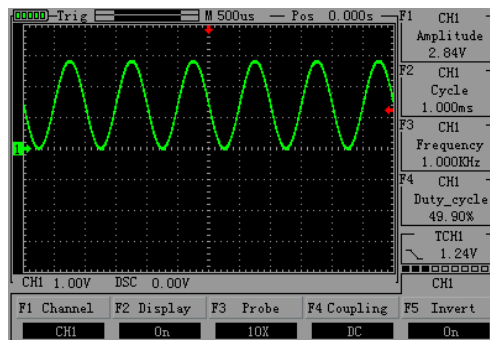

Figure 2-5 Coupling DC
- Press the "CH1"→"F4" select Settings to DC. AC and DC components are allowed to pass. Waveform displays as shown in figure 2-5.